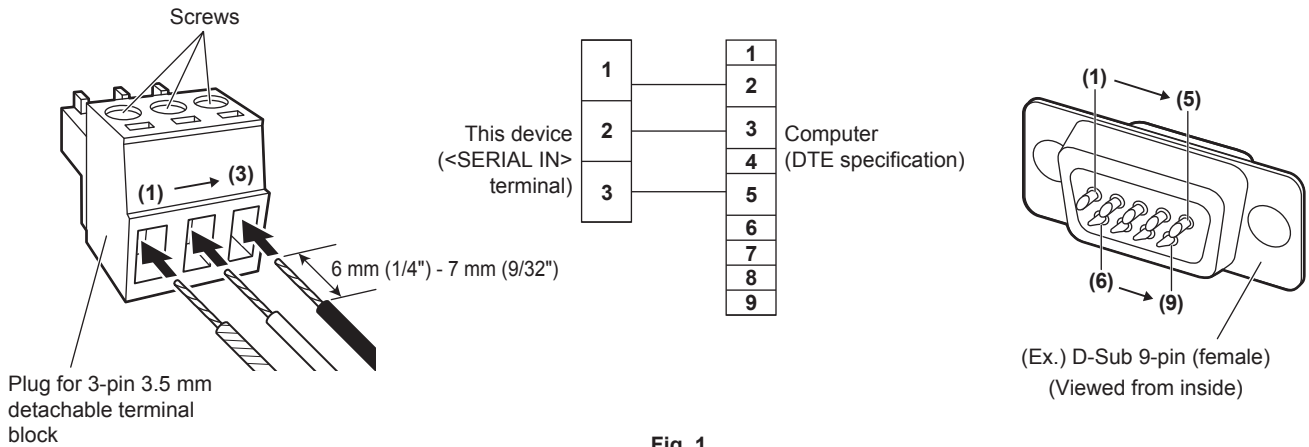

Fig. 1
- 1) Insert lead wires into the supplied Plug for 3-pin 3.5 mm detachable terminal block. (Fig. 1)**
- 3) Connect the other side of the lead wire to the corresponding pin of the D-Sub 9-pin (female) connector (Fig. 1).**